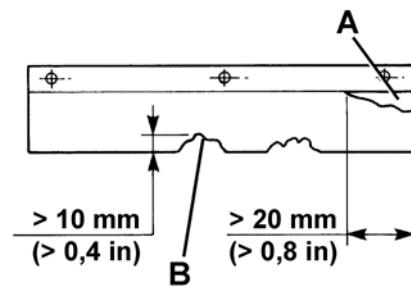

Figure 20
Replace the skirts when they have cuts (A, Fig. 20) larger than 0.79 in (20 mm) or cracks/tears (B) larger than 0.4 in (10 mm) (for skirt replacement, refer to the Service Manual).